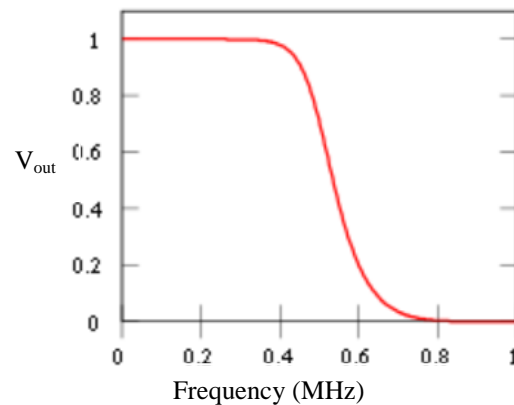

Figure Q-1
1. Figure Q-1 shows the response offilter.